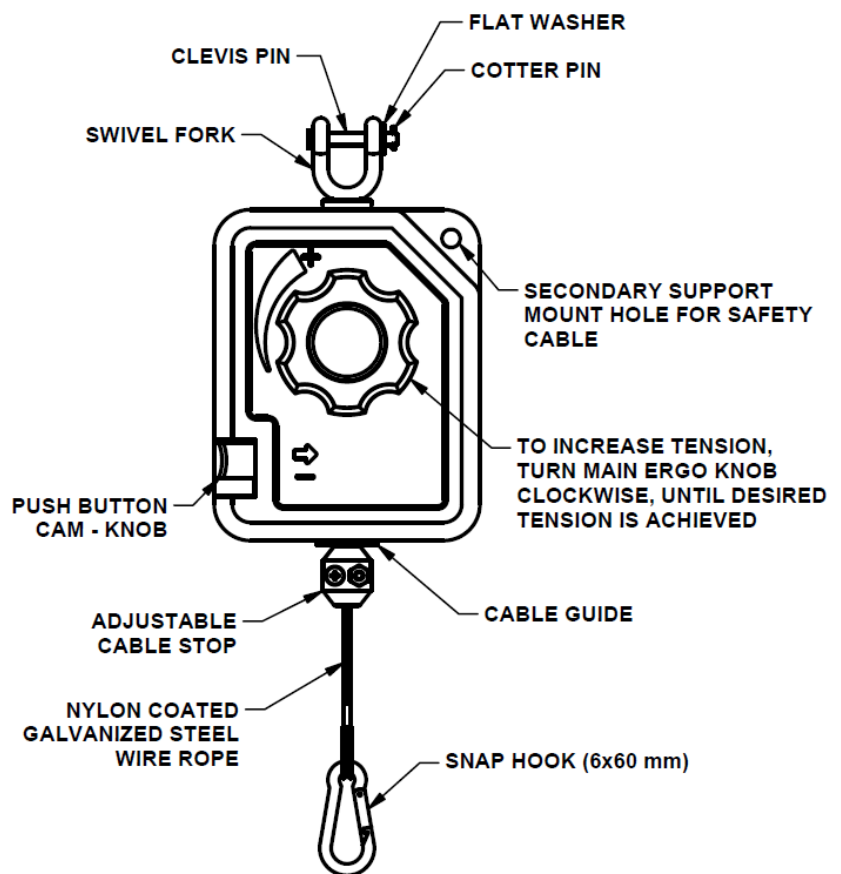

FIG. 06
- To increase tension, turn Tension Knob (on the front of the retractor) clockwise or in the “+” direction until desired tension is achieved [See - FIG. 06].
- To decrease tension, HOLD main Ergo Knob and press black button in the lower left corner and release. Repeat until tool is at desired elevation [See - FIG. 06].